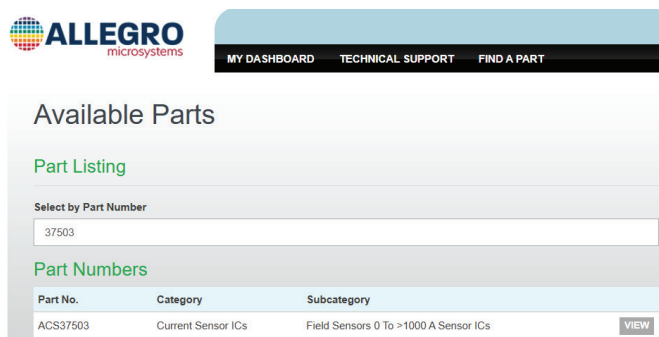

Figure 3: Part Number Search in Allegro Software Portal
4. In the “Select by Part Number” search bar (shown in Figure 3), search for “ACS37503”.